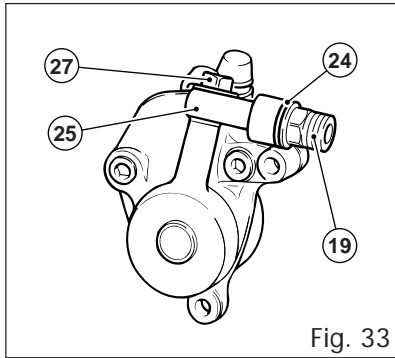

Fig. 33
4.2 - Mounting eyelet valve on pump or caliper (For models with reattachable fittings) (fig. 33 & 34)
- remove the original unidirectional valve (19) and O-rings of the part you want to mount the eyelet valve on and mount it on the eyelet valve (25, fig. 33) tightening it very firmly at 12 Nm \pm 5% (8.8 lb.ft. \pm 5%);
- mount the coupled valves (25) now together with the O-rings (26) on the pump or caliper with the drilled fixing screw (27);